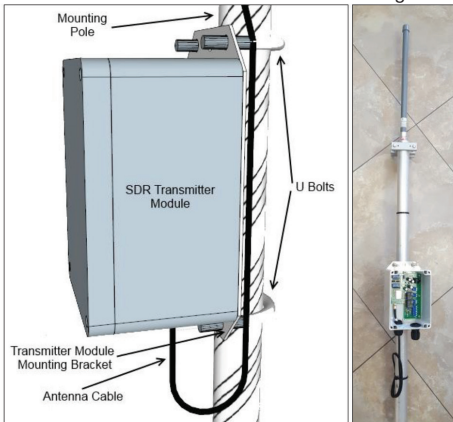

Figure 14
- Extract the Cable Glands to be found inside the module and remove the wrapping. Install each Cable Glands into the holes provided in the base of the module as seen in the image figure 14.